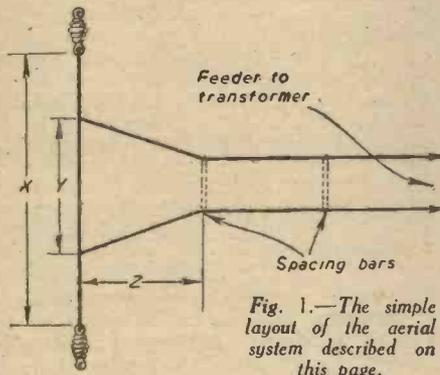

Fig. 1.—The simple layout of the aerial system described on this page.
**T**HERE are no doubt many newcomers to radio, both in the Services and outside, who are called upon to work with dipole aerials for the first time. Furthermore, it is possible that some of the pre-war transmitting folk who used certain types of feeder and aerial systems did so without thoroughly appreciating their real significance when it came to the question of why certain steps were taken. The notes which follow have been prepared with the object of clarifying an important point in so far as it applies to a twin-wire matched impedance feeder system which has been found to be very suitable for use with push-pull transmitters, and is really a continuation of the data and description furnished in PRACTICAL WIRELESS dated June 1st, pages 239 and 240. The success of this complete aerial system may be said to depend primarily on certain physical dimensions, which must be correct for the particular operating frequency allocated for the installation. These are shown as X, Y and Z in Fig. 1, and when this has been erected correctly it is only necessary to determine the right load conditions by suitably adjusting the coil taps at the transmitter.
from Fig. 1, the feeder is made to diverge for a distance Z before the junction is made. This is for the purpose of introducing an exact impedance match between the aerial and the twin wire feeder termination. This ensures a maximum transfer of power, and also eliminates any radiation from the feeders themselves. This matching question is an important one, and must be accepted at this stage; further details concerning its working will be dealt with in a subsequent issue.
The form of connection between feeder lines and aerial shown in Fig. 1 is generally referred to as Y-matching, and if the formulae which follow are used correctly, each installation should be capable of providing maximum radiation at the wavelength or frequency selected. The first item is naturally the length of the aerial itself, and in this case a small reducing factor k has to be introduced to allow for the fact that the aerial cannot be erected in free space. This factor will vary according to the diameter of the wire employed for the aerial, the factor becoming larger the thinner the wire. In addition, slight changes in k have to be made according to the frequency employed. For frequencies below 3,000 kilocycles, k can be taken as 0.96; between 3,000 and 28,000 as 0.95; and above 28,000 as 0.94. Reverting to Fig. 1, therefore, we have the length of the dipole X given by